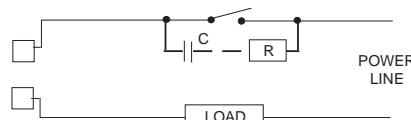

Fig. 8 EXTERNAL SWITCH IN SERIES WITH THE INTERNAL CONTACT
The same problem may occur when a switch is used in series with the internal contacts as shown in Fig. 8.
In these cases it is recommended to install an additional RC network across the external contact (or close to the non protected contact of the instrument) as shown in Fig. 8. The capacity (C) and resistive (R) values are shown in the following table.